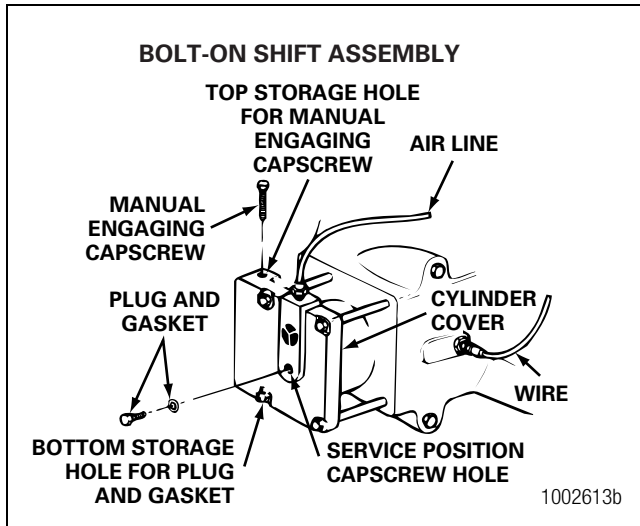

Figure 11.6
- A. Disconnect the air hose from the shift cylinder. Figure 11.6.
- B. Remove the manual engaging capscrew from the storage hole. The storage hole of threaded shift assemblies is located in the shift tower of the carrier, next to the cylinder. Figure 11.6.
- 10. Install the manual engaging capscrew into the storage hole. The storage hole of bolted on shift assemblies is located in the top side of the shift cylinder cover. Tighten the capscrew to 15-25 lb-ft (20-35 N•m). Figure 11.6.